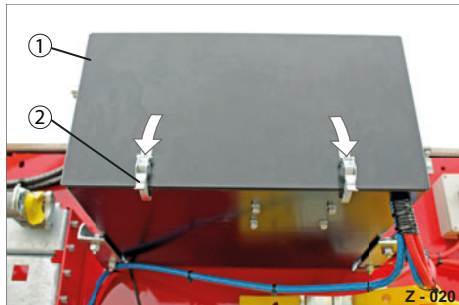

Abb. 3 Unlocking the cover
- ▶ Pull the locks (Abb. 3/2) open.